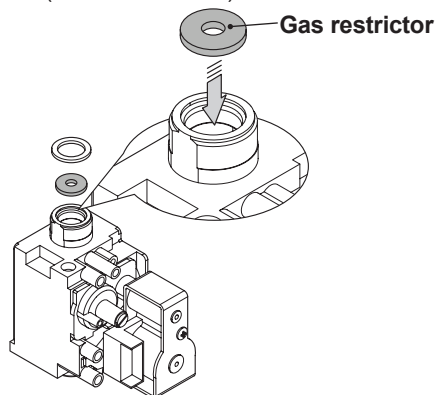

Fig. 9.2
- Carry out gas conversion by correctly replacing the gas restrictor (Fig. 9.2), referring to the "Technical Data" section pag. 28 (Inovia 25S ERP).